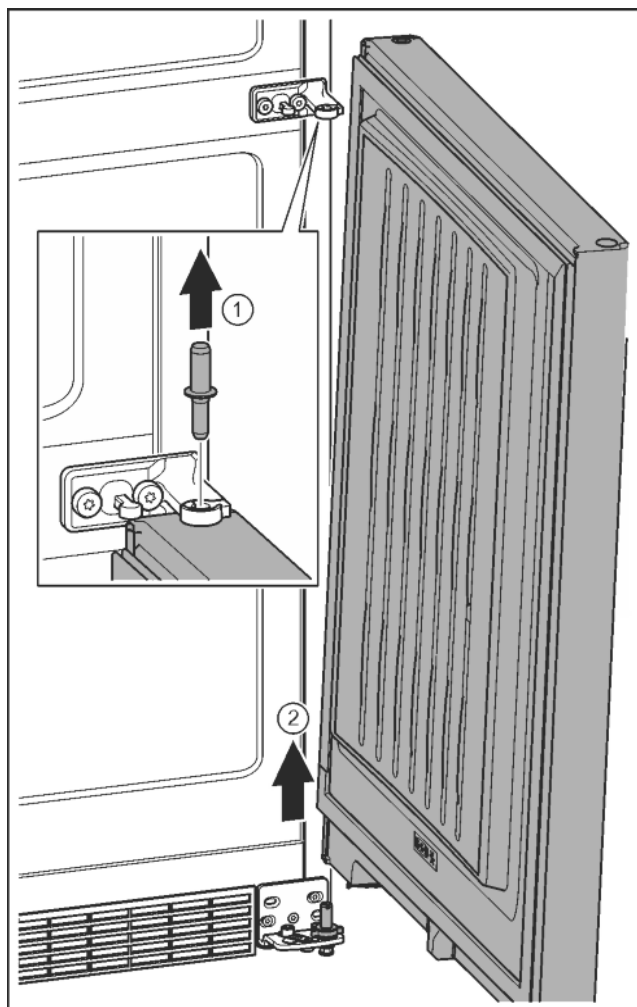

Fig. 10
- ▶ Remove the bolts in an upward direction. Fig. 10 (1)
- ▶ Swivel the door out, pull it upwards and set it to one side. Fig. 10 (2)